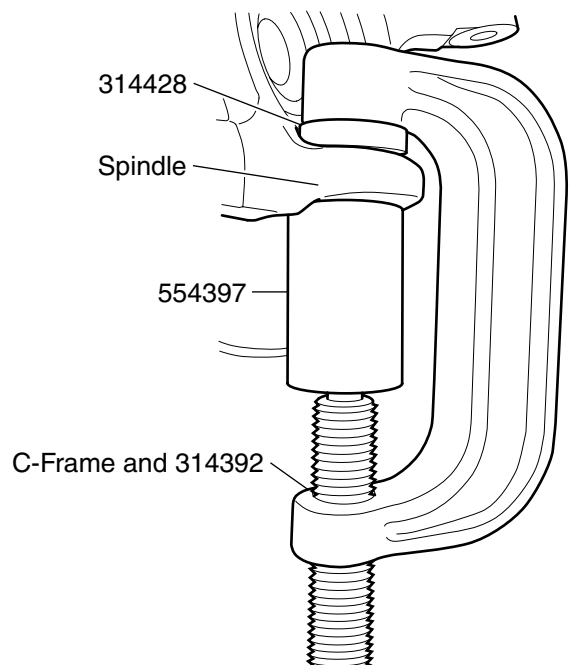

Figure 2. Ball Joint Installation
3. Position 554397 (or 38355A) on the ball joint as shown in Figure 2.